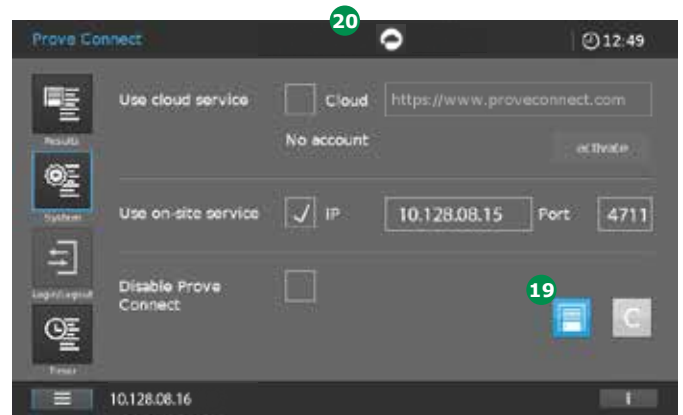

Figure 33 - Screen of Spectroquant® Prove / Prove plus with all network details
14. After setting all properties (Checkmark, IP and Port) press the save icon **19** (Figure 33).
The Spectroquant® Prove / Prove plus is now connected to your local Network. When the network is established the cloud icon **20** appears in the instrument display (Figure 33). The Spectroquant® Prove / Prove plus is now ready to transfer data to Prove Connect. All measurements are now transferred to the Prove Connect application.